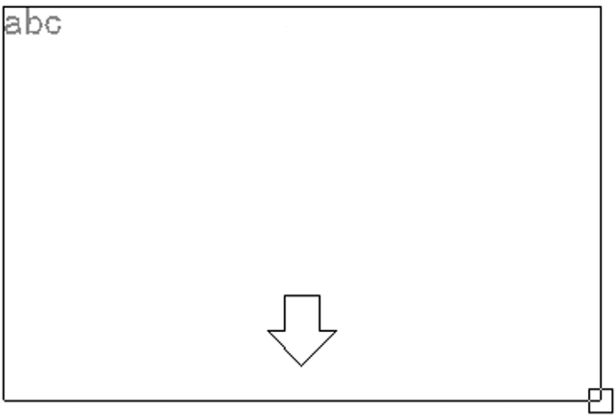

FIGURE 4.3 Mtext field.
Step 2. Left-click anywhere on the screen, noticing the `abc` next to the crosshairs. A rectangle with an arrow appears, as shown in Fig. 4.3. Continue to move your mouse down and across to the right, making the rectangle bigger. This is your text field; make it as large or small as you need it to be to hold all the text. As you do this,